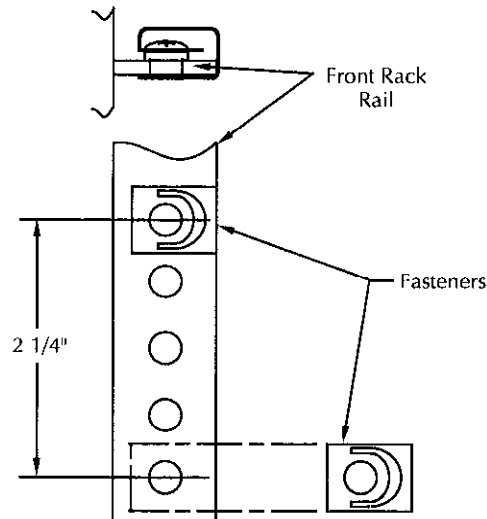

Figure 1-1
| Figure 1-1 | Fastener installation | 1-2 |
3. Referring to Figure 1-1, install four fasteners so the captive nuts are located behind the appropriate holes on the front rack rails.